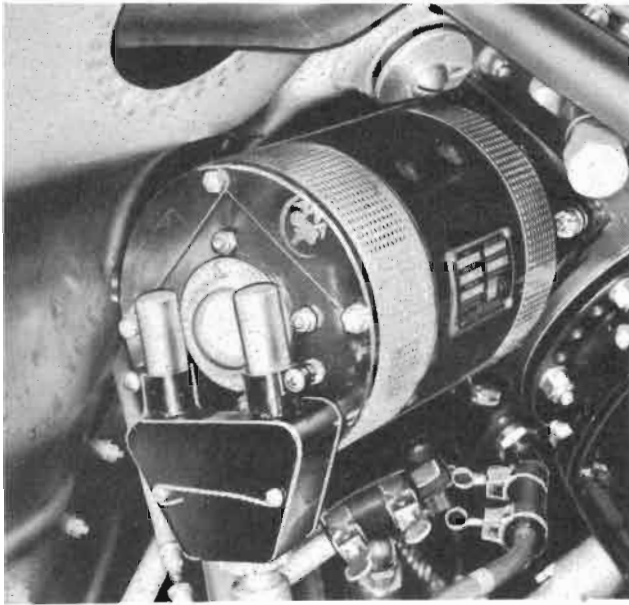

Figure 262 — Generator Installed
(3) GENERATOR SYSTEM.—(See figures 262 and 263.)—A type E-5A engine-driven generator, mounted on the rear of the engine assembly, serves to keep the battery charged and to furnish power for operating the airplane's electrical equipment. A generator